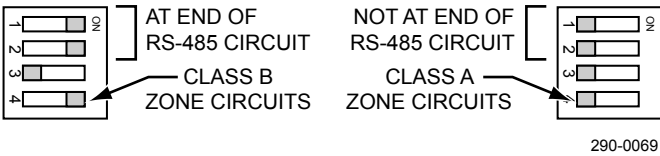
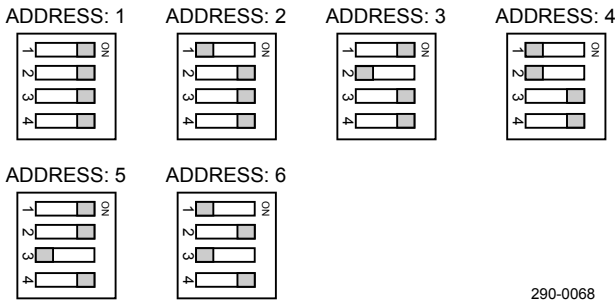
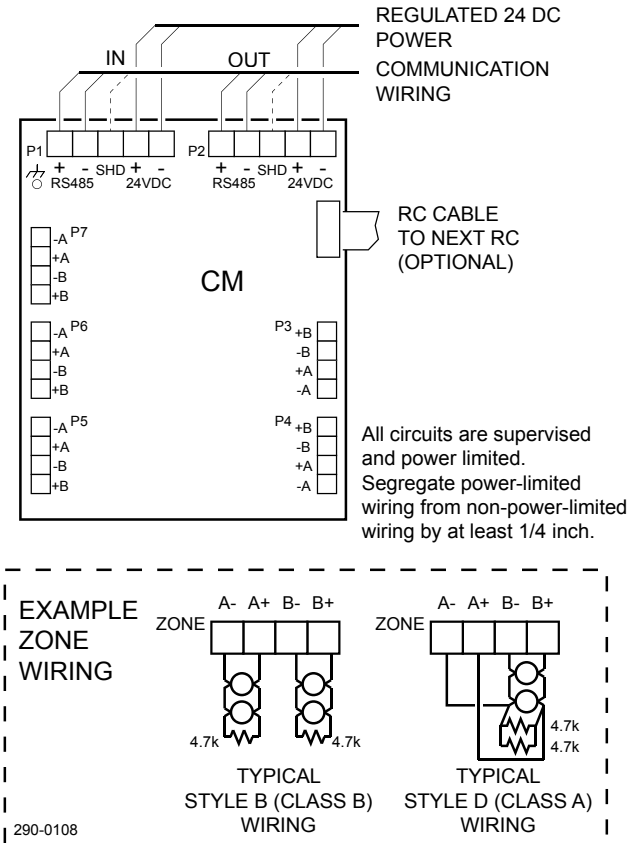

Figure 2: SW2 settings
Figure 3: Address (SW1) settings
Figure 5: Wiring
1. Connect module power supply wiring to the 24VDC supply circuit. Connect RS485 communication wiring to the panel's communication circuit. See Figure 5.
2. Set SW1 to set the module's address (Figure 3). If the CM is the last module on the panel's communication wiring, set SW2 to the end-of-line settings (Figure 2).
3. Connect zone wiring (Figure 5). Set SW2 according to the wiring style used (Figure 2).
4. Connect cable for T8000-RC modules, if used (Figure 5).